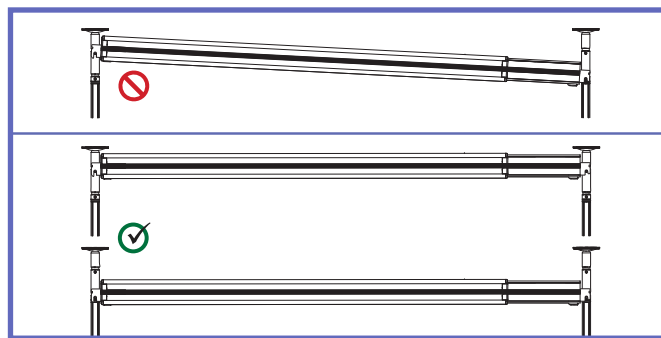

Fig. 24
**WARNING:** For kit featuring long posts, the track **MUST** be installed on the set of pins at the same height on both ends as shown in Fig. 24. Not following this advice could make the system unstable and lead to injuries.